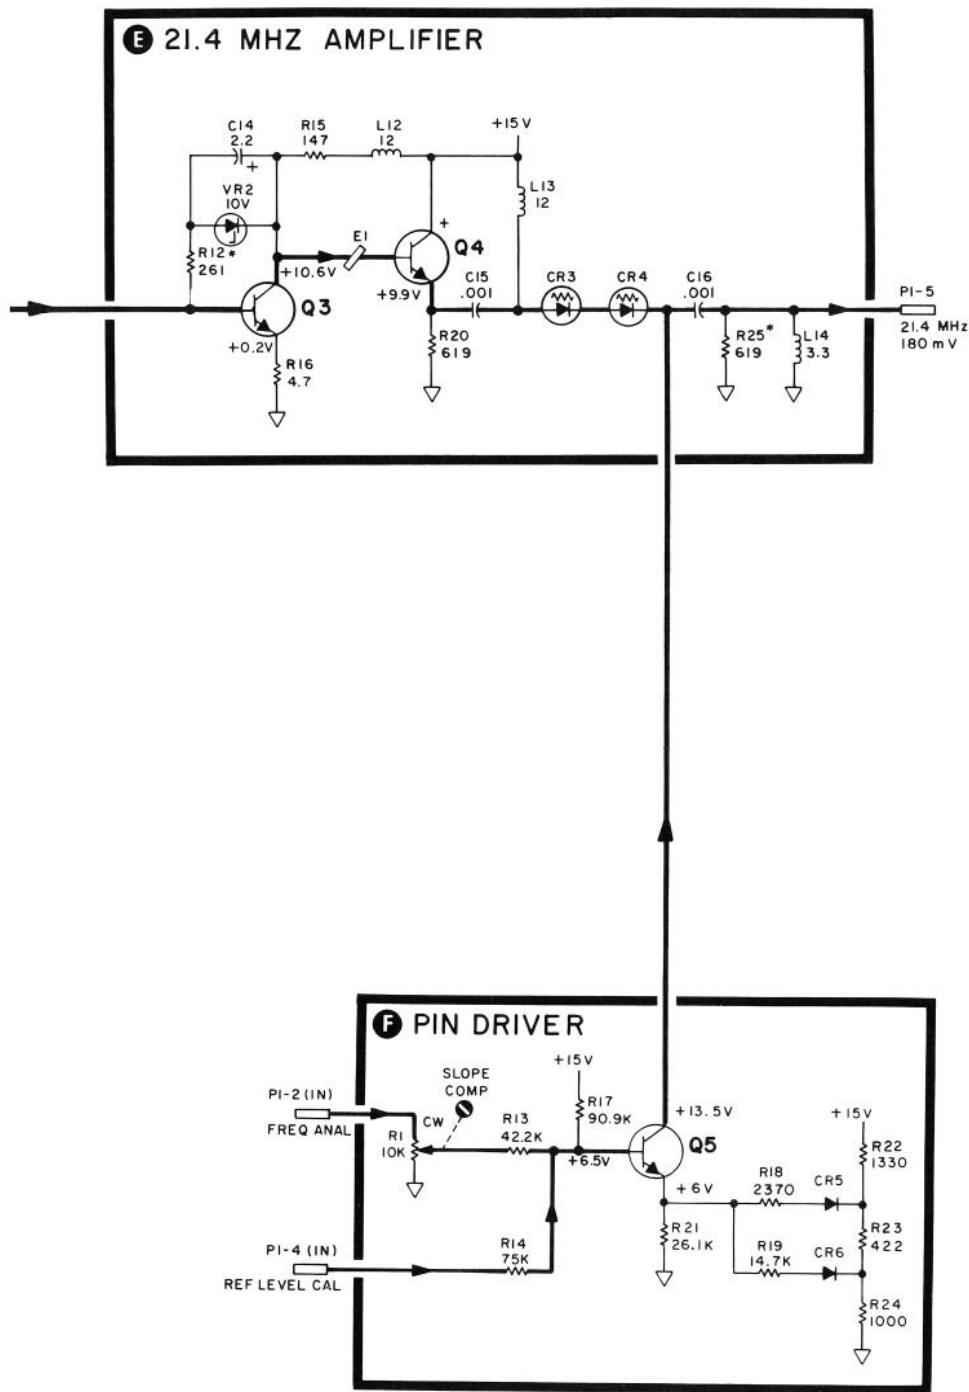

FIGURE 7-10. P/O A9 THIRD CONVERTER AND A10 SECOND IF ASSEMBLIES, SCHEMATIC DIAGRAM
1914A with suffixes      (F) shown in Figure 7-10, included in this Manual Backdating